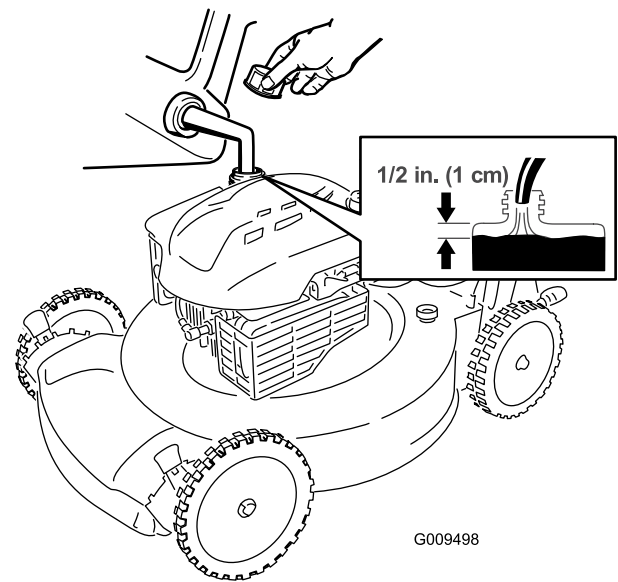

Figure 8
1. Clean around the fuel-tank cap, and remove the cap from the tank (Figure 8).